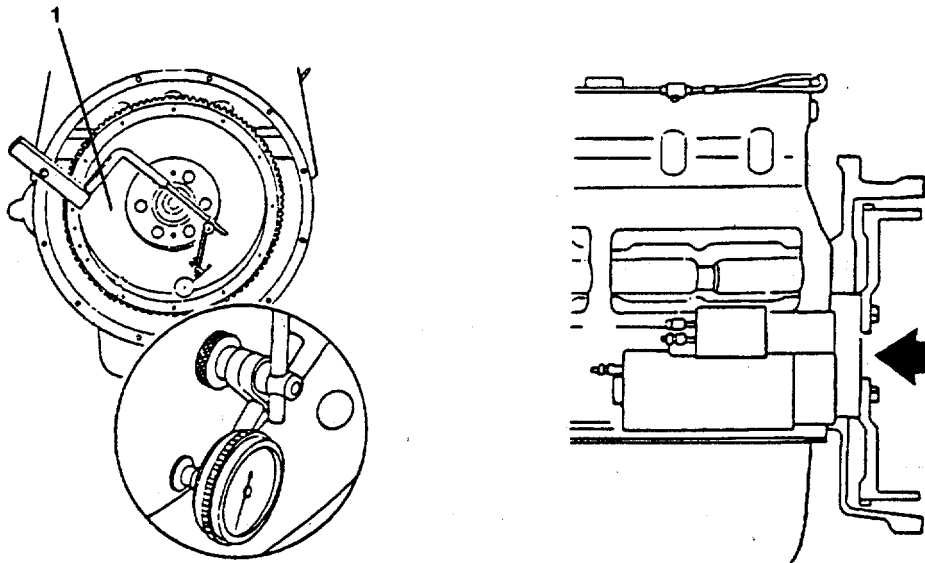

FIGURE 3-80. Checking Flywheel Face
- (5) If the TIR is greater than the specification, perform the following:
- e. Measure the flywheel face runout (Figure 3-80) as follows:
- (1) Install the contact tip of the indicator against the flywheel face, as close to the outside diameter as possible.
- (2) Push the flywheel forward to remove the crankshaft end clearance. Adjust the dial on the indicator until the needle points to "O" (zero).
- (3) Use the accessory drive shaft to rotate the crankshaft one complete revolution. Measure the flywheel runout at four equal points on the flywheel.